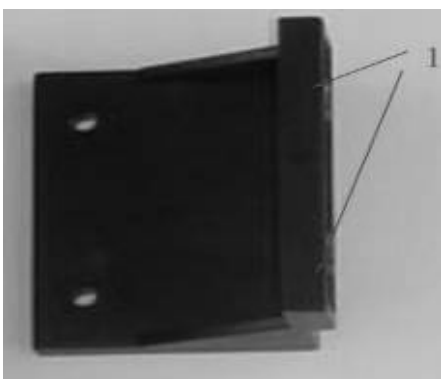
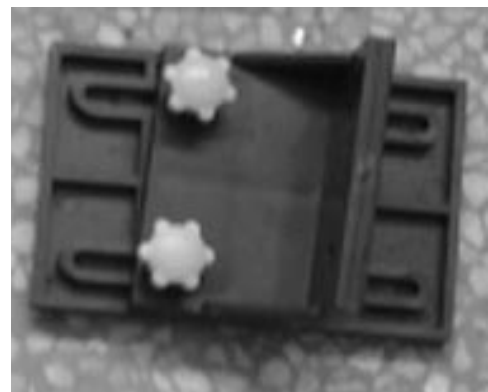

Figure 1
Figure 3
1. First fix the two plastic pieces indicated in fig. 1 and 2 through two 30 mm round head square neck bolts and 2 knurled knobs. In fig. 1, number 1 indicates the holes you must use only in final phase. These two pieces are used as vertical clamp for the workpiece.
5. Then fix the horizontal clamp on machine's workbench. The arrows indicate the positions in which you have to fix the metal part and log plastic piece on the workbench by using 2 M5 bolts. Lastly, use two 2 M5 10 mm hexagonal headed bolt and two 10 mm nuts in order to fix the part illustrated in fig. 3 to the main part thanks to the two holes marked with no. 1 (Fig.1). The main part of the assembly is finished. You can check that all parts are correctly assembled in order to grant a suitable safety level while you are using the machine.